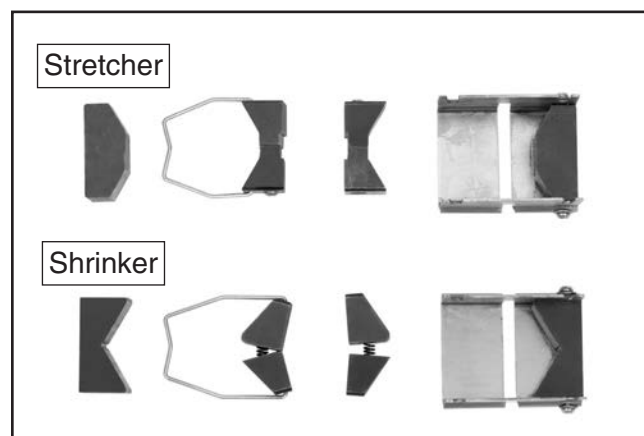

Figure 4. Die and jaw assembly order.
3. Lay out die components, as shown in **Figure 4**.
5. Use **Figures 4–5** as a guide to arrange die parts in correct order and reassemble.